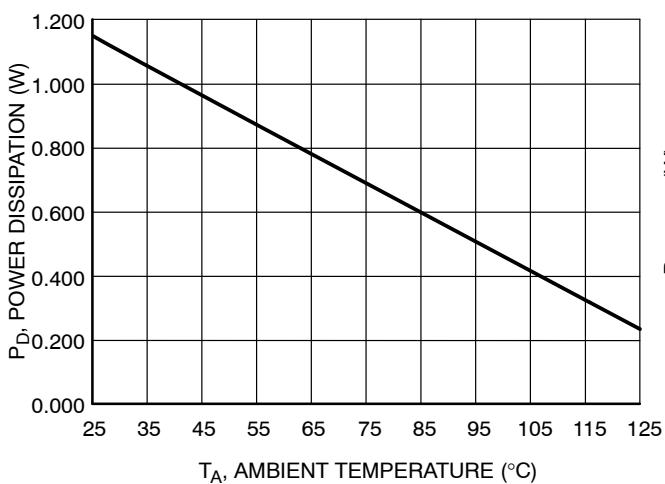

Figure 3. Total Power Dissipation (P_D) vs. Ambient Temperature (T_A)
9. If $P_{D_total} > 1.13 \text{ W}$ (or derated value per Figure 3), then select the most appropriate recourse and repeat steps 1 through 8: